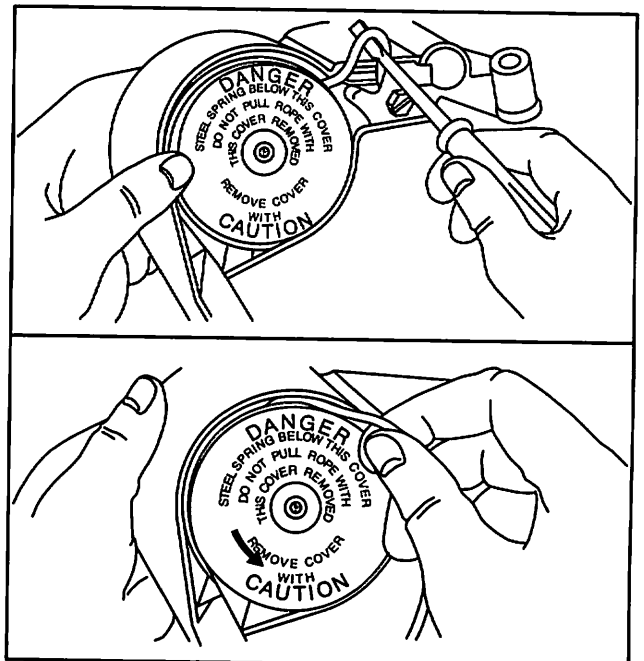

Fig. 50
2. Use a screwdriver to lift the rope up approximately one foot, Fig. 50.
3. Wind rope and pulley counterclockwise 4 turns, as shown in Fig. 50. This will completely release tension from the starter spring.